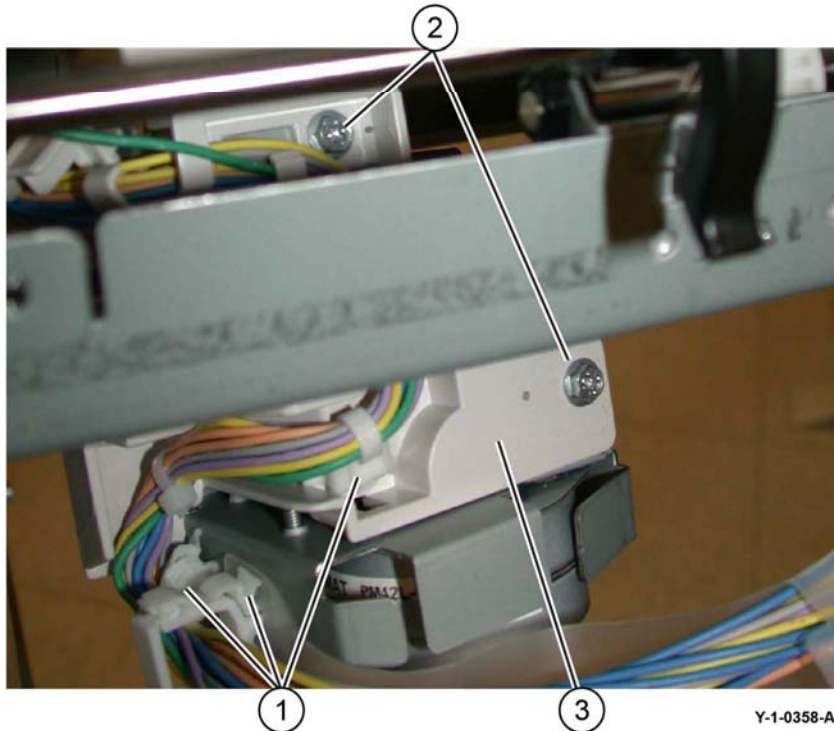

Figure 2 Wire guide removal
3. Remove the wire guide, **Figure 2**:
- a. Pull out the cable clamps (1), then remove the wires from the wire guide.
- b. Remove two screws (2).
- c. Remove the wire guide (3).